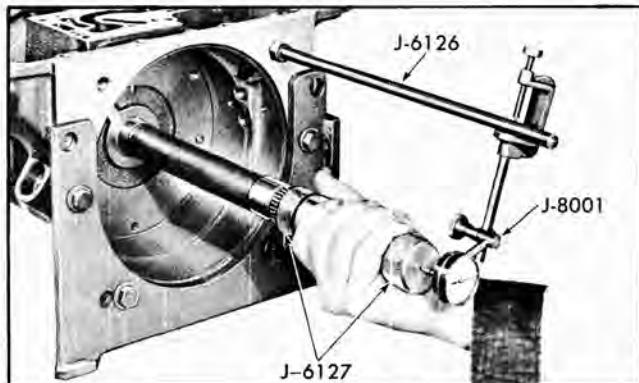

Fig. 155 Checking Mainshaft End Play
stalling Truarc snap ring on main shaft (Fig. 155). Attach fixture to collar by threading fixture securely onto collar.
- c. Install J-8001 dial indicator (Fig. 155).